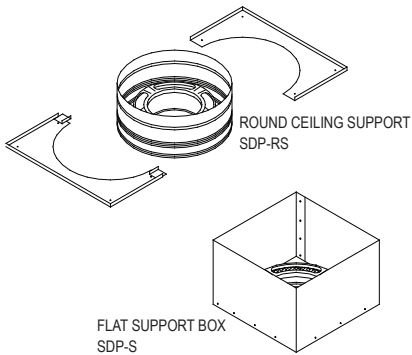
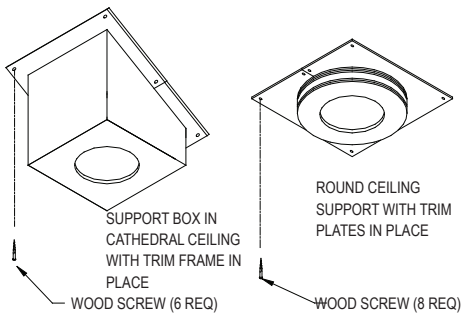

Figure 5
Figure 6
3. Install Support: Slip the Support Box (Figure 5), into the framed opening. It must extend at least 2 inches below the finished ceiling. Level the Square Support Box and nail it to the framing using at least two 8-penny nails per side. The two Trim Frames are positioned as shown, and screwed through the ceiling and into the framing members with (6) 1-1/4 inch long round-head wood screws. (Figure 6). The bottom of the Round Support must also be at least 2 inches below the finished ceiling. Trim for the Support Boxes is “U-shaped”. The trim pieces are adjusted to accommodate the Square Support Box, and screwed into the framing, using wood screws. A completed Square Support Box installed in
a cathedral ceiling with the “U-shaped” trim is also shown in Figure 6. Trim kits are available in brass, to enhance the appearance of the various Support Boxes and Trim Frames. Where the chimney passes through additional floors and ceilings, install Firestop Radiation Shields. Where the chimney passes through an attic, Firestop Radiation Shields and Insulation Shields must be installed.